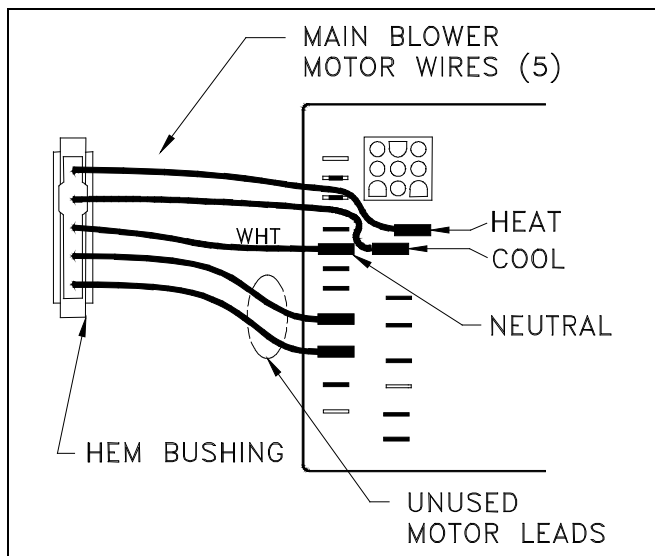

Figure 32. Main Blower Speed Selection.
1. To change cooling speed, move desired motor lead to terminal marked 'COOL' on Fan Timer. See Figure 32. Initial factory setting for cooling is high speed (black wire).
2. To change heating speed, move desired motor lead to terminal marked 'HEAT' on Fan Timer. See Figure 32. Factory setting for heating is listed in Table 9. Heating speed should not be reduced below factory setting.
3. Connect two unused motor leads to terminals marked "UNUSED MOTOR LEADS" on Fan Timer. See Figure 32.